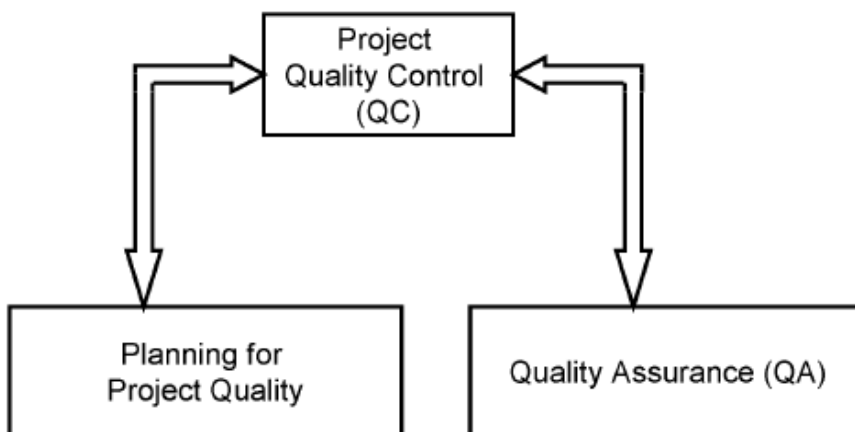

Figure 5. Quality Management Processes
Management is to a large extent planning and control. Project Quality Management thus comprises of three elements: Quality Planning (QP), Quality Assurance (executing the plan) (QA) and Quality Control (QC) as illustrated in Figure 5.
According to the Shewhart cycle or Plan-Do-Check-Act cycle QA is defined as the “Do” element and QC as the “Check-Act” elements. QC is the process of ensuring that Quality Assurance corresponds with the plan and in Figure 5 QC overarches Planning for Project Quality and QA to illustrate this relationship.